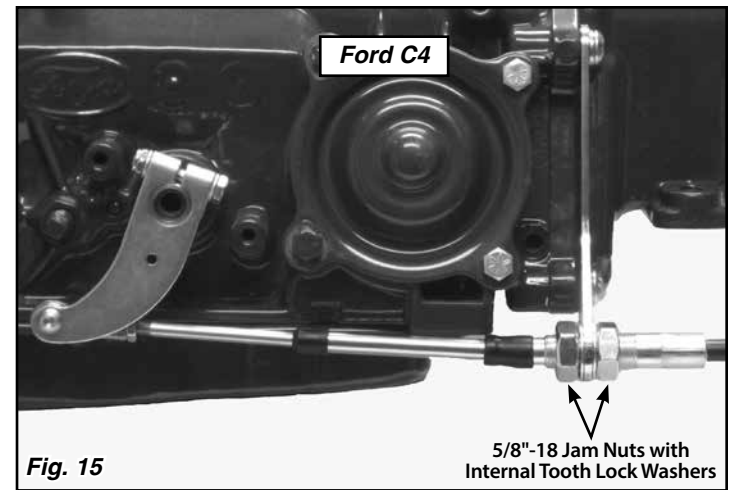

Fig. 15
- **C4:** The rod end attaches to the inside of the trans arm, towards the transmission. **Fig. 15 & 19**